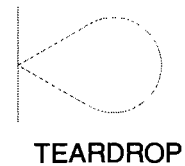

Figure 8-3A
1. Put a hook tool in one of the areas marked with a 'teardrop' (see Figure 8-3A).